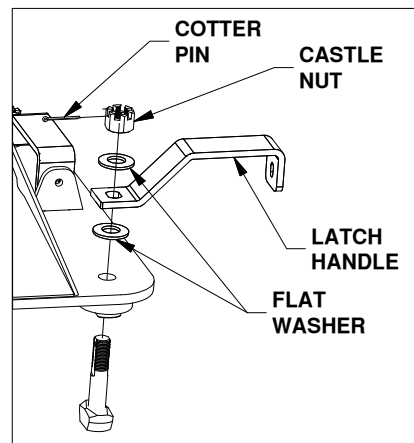

Figure C3: List of latch parts.
3. **Adjust the tension in the latch handle**, for parts list and visual guide refer to Figures C3 and C4.